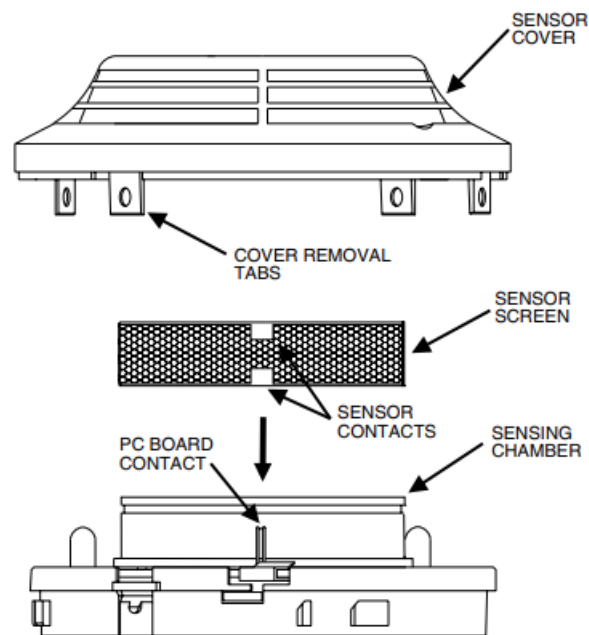

Figure 4. Cleaning
2. Remove the sensor cover, see Figure 4. Use a small standard screw-driver to release each of the four cover removal tabs that hold the cover in place.